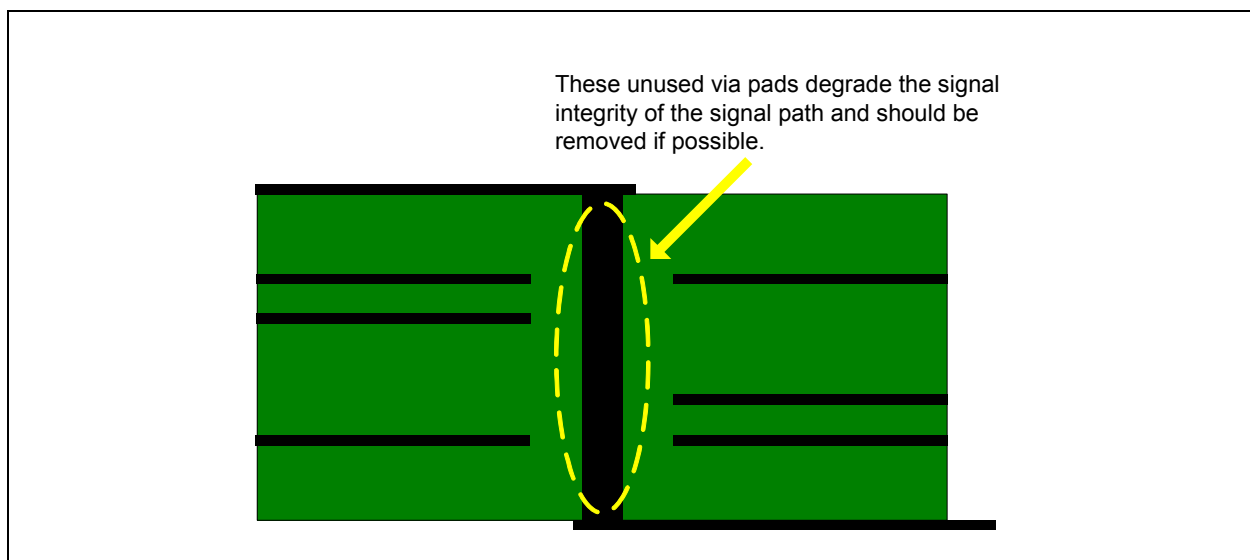

**Figure 9-13 Better Ground Vias for Signal Return Paths – Two Return Path Vias Per Signal Via (Less Reflection)**
- Each time differential traces make a layer transition (pass through a pair of signal vias), there must be at least one ground via located near each signal via. Two ground vias near each signal via is better. See Figure 9-12 and Figure 9-13.